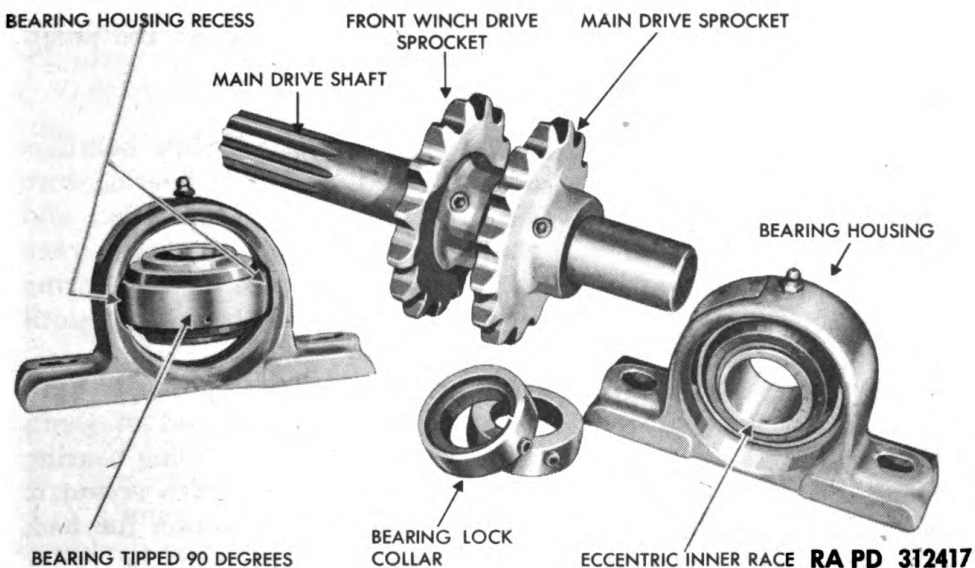

Figure 22 — Main Drive Shaft — Disassembled
(1) **REMOVE SELF-ALINING BEARING** (fig. 22). Back out the set screws in the self-aligning bearing lock collars. Hold the inner race of the self-aligning bearing, and turn the lock collar one-quarter turn in either direction until it is free on the bearing inner race. Slide collar and bearing assembly off shaft. Tip the bearing at 90 degrees to its normal operating position and, using a soft hammer, drive the bearing out through the recesses in the bearing housing.
(1) **ASSEMBLE SELF-ALIGNING BEARINGS** (fig. 22). Slide bearings into the housings through recesses provided, and turn bearing into its normal running position. The bearings should be installed and rotated in the housing so that the eccentric side of the inner race faces toward the bearing lock collar. The recess side of the bearing lock collar fits over the inner bearing race and must be rotated until it locks against the inner bearing race.
(2) **INSTALL SELF-ALIGNING BEARINGS.** Press the sprockets onto shaft with the hubs of sprockets away from splined end of shaft. Install and tighten set screws. Install splined end self-aligning bearing lock collar on shaft, and slide self-aligning bearing on with eccentric side of inner race toward the sprockets (fig. 22). Position the lock collar on the inner race of the self-aligning bearing, turn the collar until it locks on the inner bearing race, and tighten bearing lock collar